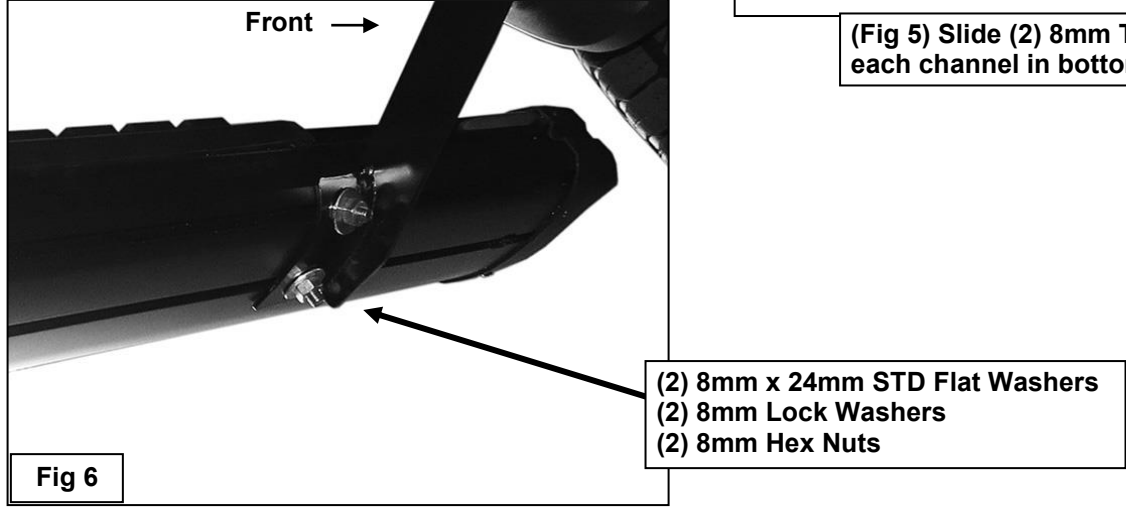

Fig 6
7. Line up the front of the Sidebar approximately 2" back, (or locate as desired), from the front wheel opening. Attach the Sidebar to the Mounting Brackets with (4) 8mm Flat Washers, (4) 8mm Lock Washers and (4) 8mm Hex Nuts, (**Figure 6**). Do not tighten hardware at this time.